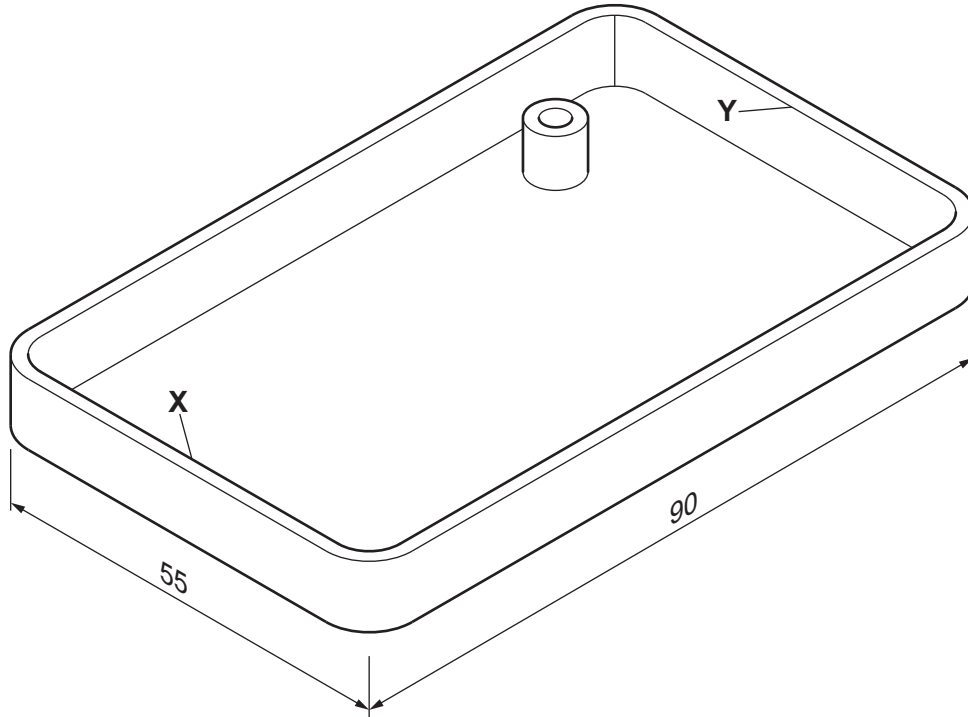

Fig. 9.1
- 9 (a) Fig. 9.1 shows part of a plastic case to hold a circuit board.